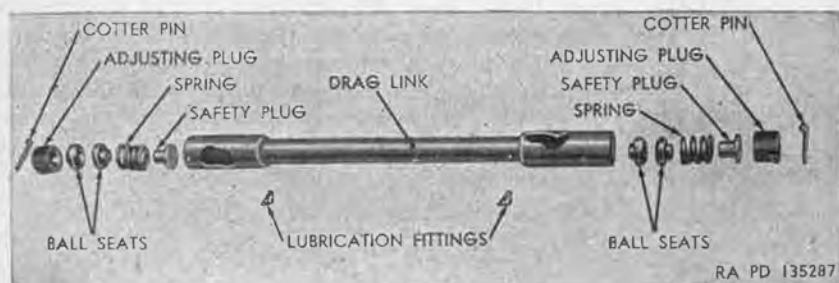

Figure 268. Drag link assembly—exploded view.
- (2) Remove cotter pin (fig. 268) from drag link.
- (3) Unscrew adjusting plug (fig. 268) as far as possible without removing it from end of drag link.
- (1) Place rear end of upper drag link (fig. 261) on pitman-arm ball stud, and screw adjusting plug (fig. 268) into end of drag link but do not tighten.
Note. Distance between ball stud opening and drag link end is greater at one end of drag link assembly than at the other (fig. 268). Install upper drag link so that end with greater distance between ball stud opening and drag link end is at pitman-arm.
- (4) Turn adjusting plug into rear end of drag link until ball seats (fig. 268) clamp pitman-arm ball stud firmly; then back out adjusting plug until slot in plug is aligned with first cotter pin hole. Install new cotter pin.
- (5) Repeat in (4) above at front end of upper drag link.